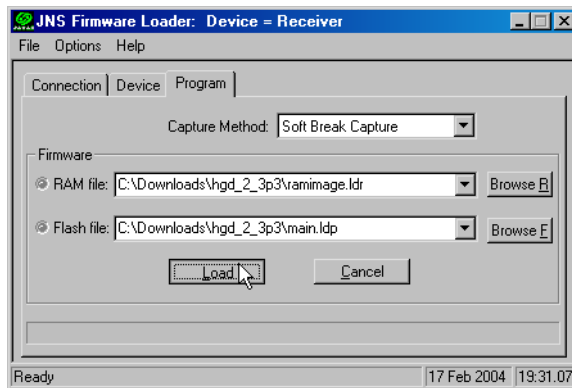

Figure 4-16. Program Tab Settings
3. Select the **Program** tab and set the **Capture Method** to **Soft Break Capture** (recommended) (Figure 4-16).
4. Browse for and select the receiver board's RAM file and Flash file (Figure 4-16).